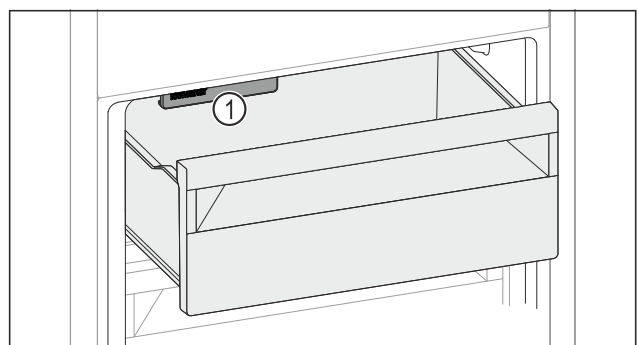

Fig. 145
- Watch out for the IceMaker Fig. 145 (1).